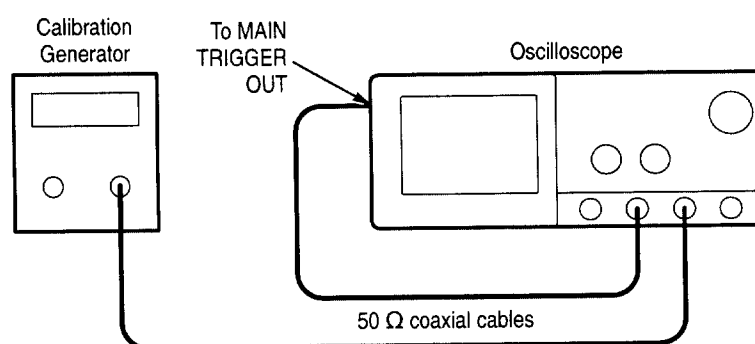

Figure 1–21: Initial test hookup
- a. *Hook up test-signal source 1 (See Figure 1–21):*